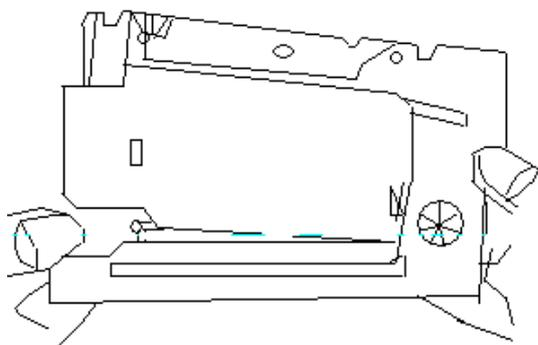

Fig.2-5 Taking Down the Ribbon Cassette
(2) Take down lightly the old ribbon cassette which is on the head of printer, (see Fig.2-5).